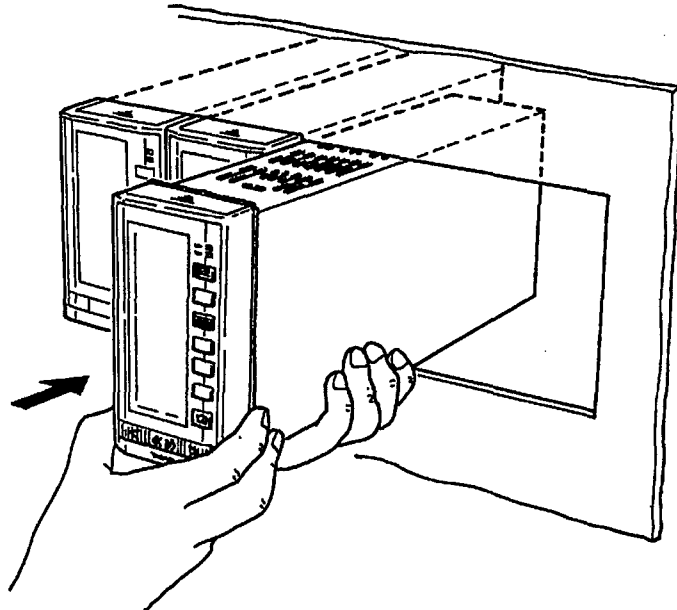

Figure 3.4 Installing Multiple Units for Flush Mounting
- ① Place the units in the order of installation, and place the side panel of the unit flush with the side panel of the next unit. Then, insert the units in the panel (see Figure 3.4).
- ② For installation of other units, perform the same procedure as for “When Installing a Single Unit” on previous page.